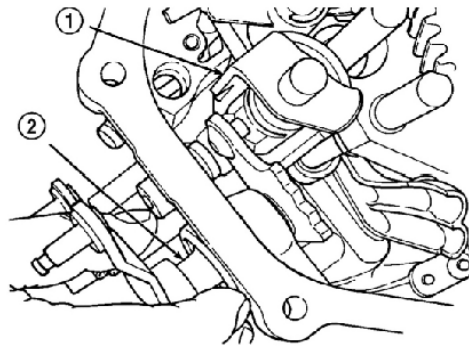

Figure 3-47 Shift shaft
(14) Pull shift shaft pin out of the stopper assembly groove and rotate the shift shaft upwards, then put it aside (Figure 3-47).